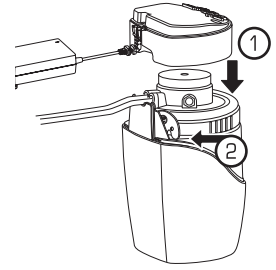

Fig. 47
1. **Replace** the Electronic Module (1). **Store** the Tubing Removal Tool for future use (2) (Fig. 47).